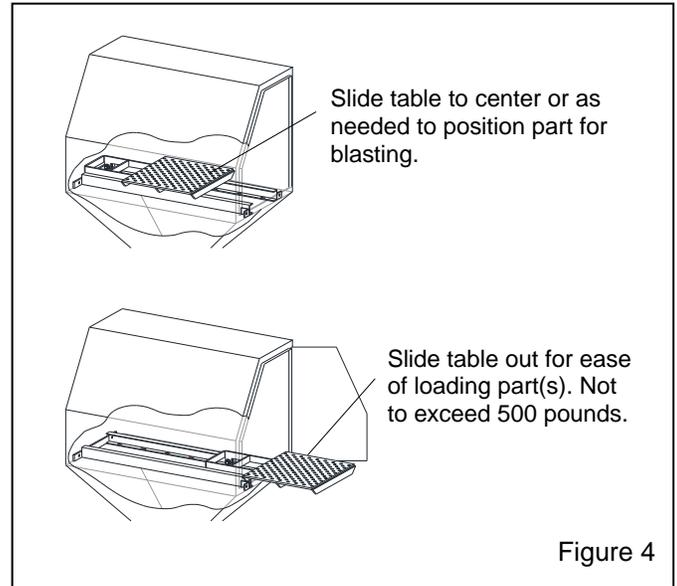

Figure 4
3.3.1 Components of track and table assembly are shown in Figure 4. The assembly consists of: